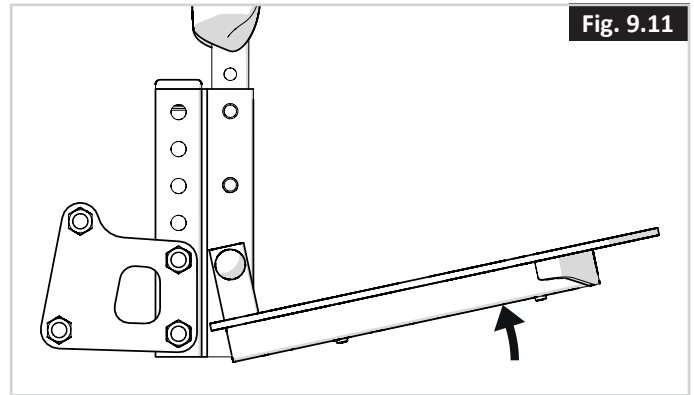

Fig. 9.11
1. Move footplate into desired angle (Fig. 9.11).